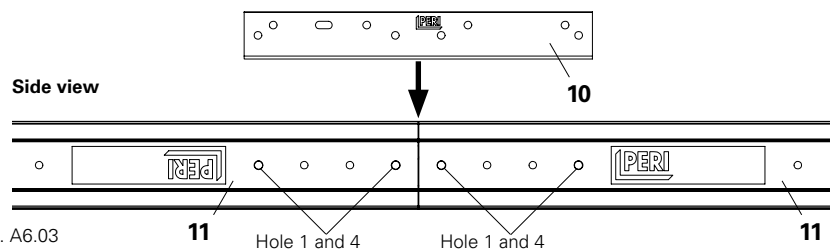

Fig. A6.03
2. Insert the splice MPB 24 (**10**) (Fig. A6.03)